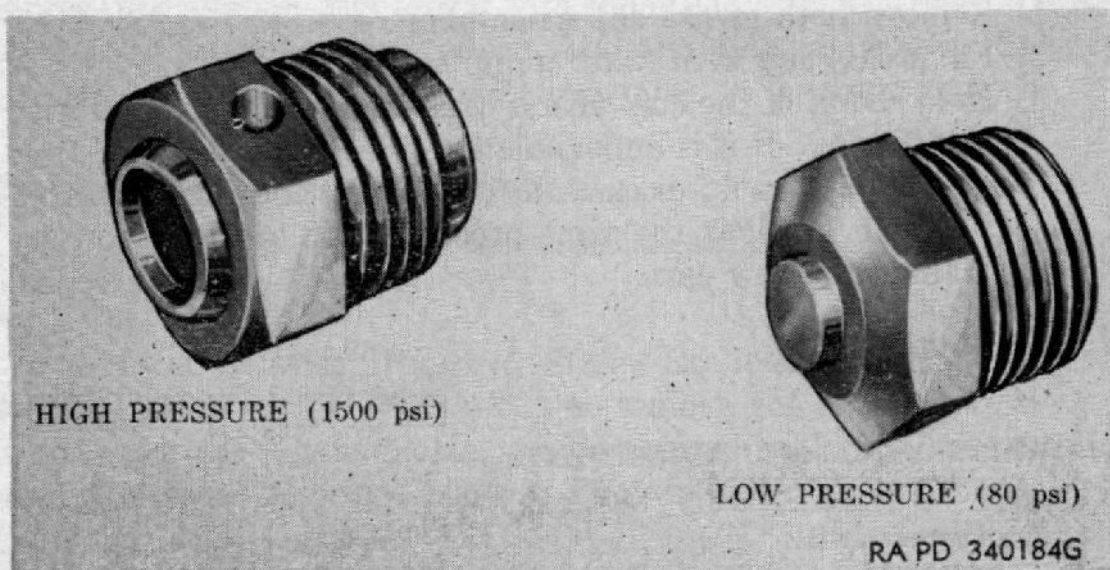

Figure 96.1 (Added) *Relief valves.*
b. (Added) The low pressure relief valve (fig. 96.1), used in propeller shafts of early models, relieves the lubricant before it is forced to the universal joint trunnion bearings. To correct this condition, the low pressure (80 psi) relief valve has been replaced by a high pressure (1,500 psi) valve. All low pressure relief valves found in universal joints of ordnance matériel in the field, should be replaced at the earliest practicable date. Low pressure relief valves found in new universal joint repair kits or in propeller shaft assemblies should be changed before installing in the vehicle.